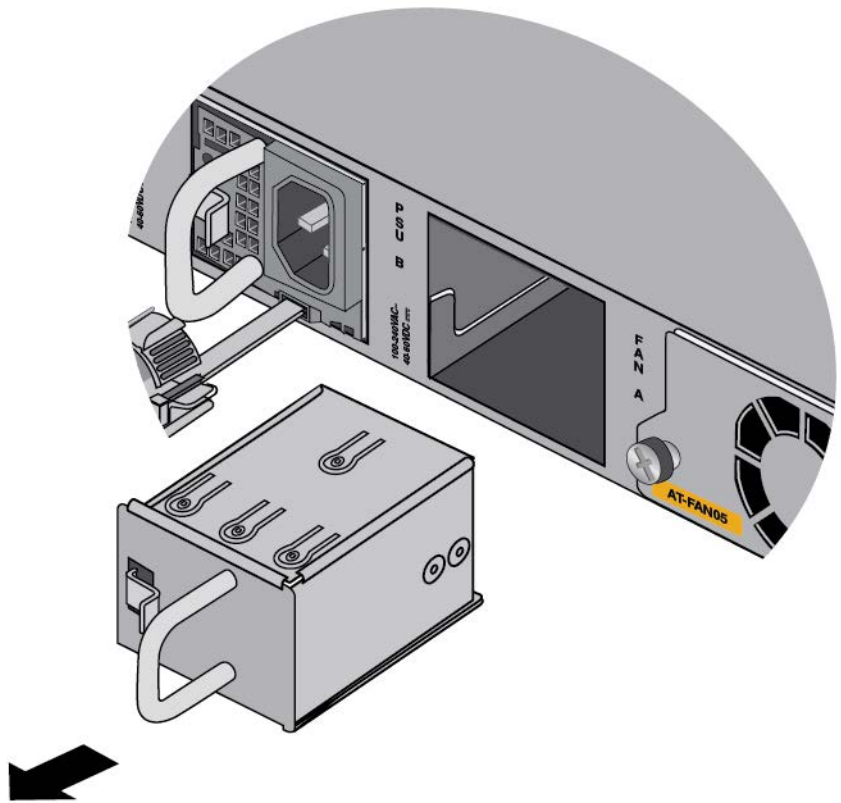

Figure 38. Removing the Blank Power Supply Panel from Slot PSU B
2. If there is already a power supply in PSU A, remove the blank panel from PSU B slot by pressing the release tab to the right and sliding the panel from the switch. Refer to Figure 38 on page 101.